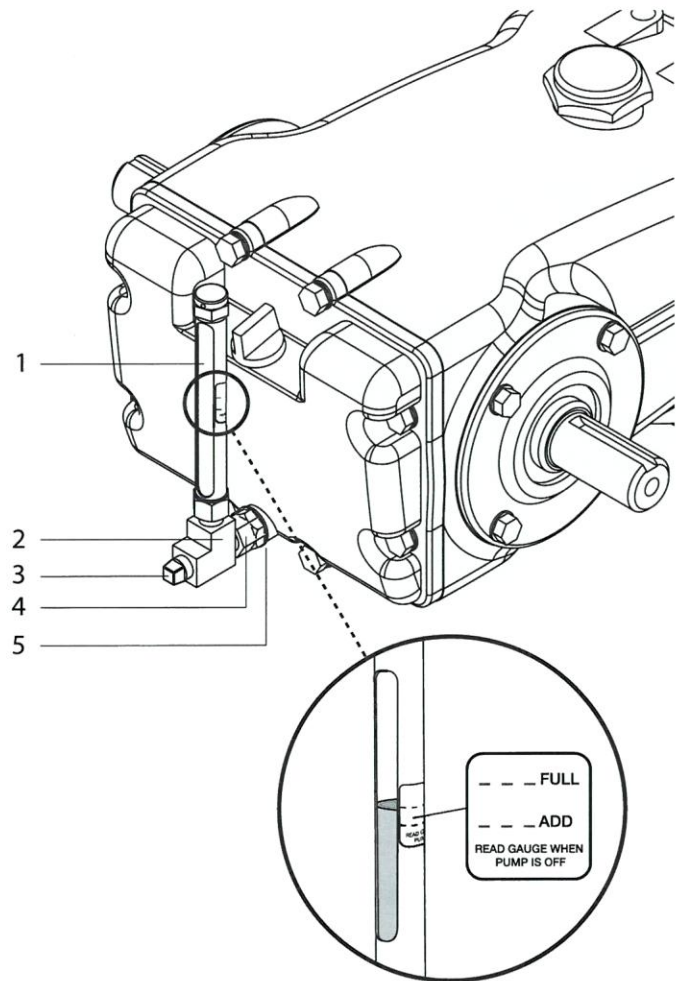

Figure 1
3. Install 1/4" BSP fitting (Figure1, item 4) with o-ring (5) into rear cover of pump.
4. Thread in tee (2) to fitting (4).
5. Thread in square end plug (3) into tee (2).
6. Thread in crankcase oil level indicator (1) into open port of vertical leg of tee (2).
1. Ensure square end plug (3) is installed at end of tee (2).
3. Fill pump to capacity as stated in pump data sheet. Add an additional .25 oz of oil to fill crankcase oil level indicator (1) to center of indicator.
5. Position silver label on crankcase oil level indicator (1) so that the "FULL" line is level with the oil when pump is not running (Figure 1).
1. Ensure square end plug (5) is installed in union fitting (6)
3. Fill pump to capacity as stated in pump data sheet. Add an additional 2 oz. of oil to fill crankcase oil level indicator (1) and drain hose (8) to center of indicator.
5. Position silver label on crankcase oil level indicator (1) so that the "FULL" line is level with the oil when pump is not running (See Fig. 1)